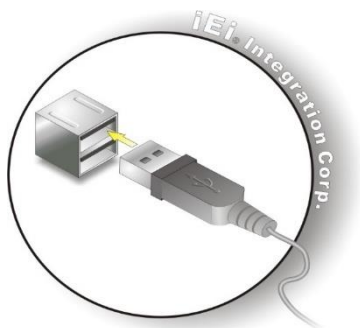

Figure 3-21: External dual USB 3.2 Gen2 Connectors Location
- CN Location:** See Figure 3-21